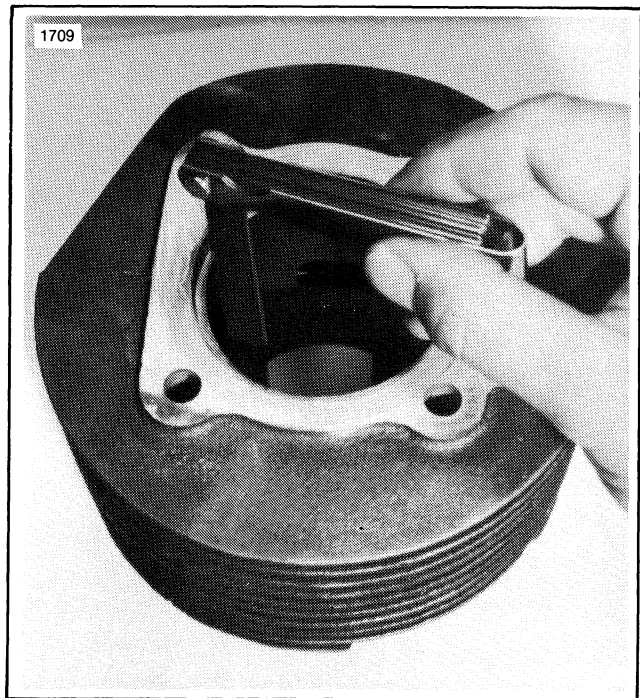

Figure 5-13. Checking Ring End Gap
2. See Figure 5-13. Check the ring gap clearance as shown. Place a ring in the cylinder, 1/2 in. from the